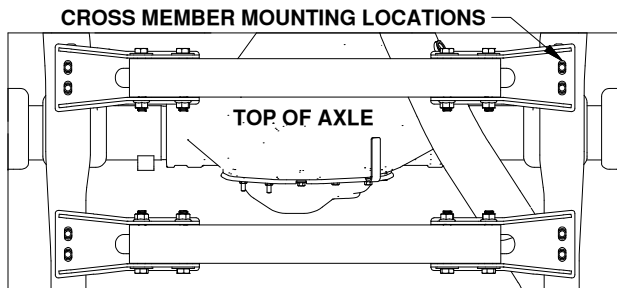
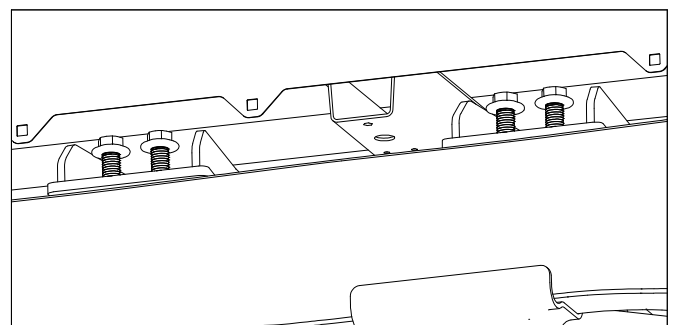

Figure B1: View looking down over truck frame (bed not shown).
Figure E1: View looking into passenger side wheel well.
1. **Cross member installation location.** The cross members for this hitch installation are designed to rest on top of the truck frame and mount to existing threaded holes on the top of the frame rail. To make installation as easy as possible, locate and familiarize yourself with these threaded holes before installing the cross members. See Figure B1 for a top down view of the frame with the cross members installed.
2. **Locate parts and hardware.** Locate the two cross members and the four cross member brackets. These will be assembled together using 5/8" x 4-1/2" bolts, 5/8" flat washers, and 5/8" flange nuts, see Figure B1.
1. **Install M14 bolts.** Locate the eight M14 X 35mm flanged head bolts. Pass each bolt through the cross member brackets and into the threaded holes in the frame as shown in Figure E1. Refer back to Figure B1 for frame bolt locations. Do not fully tighten hardware connections at this time.